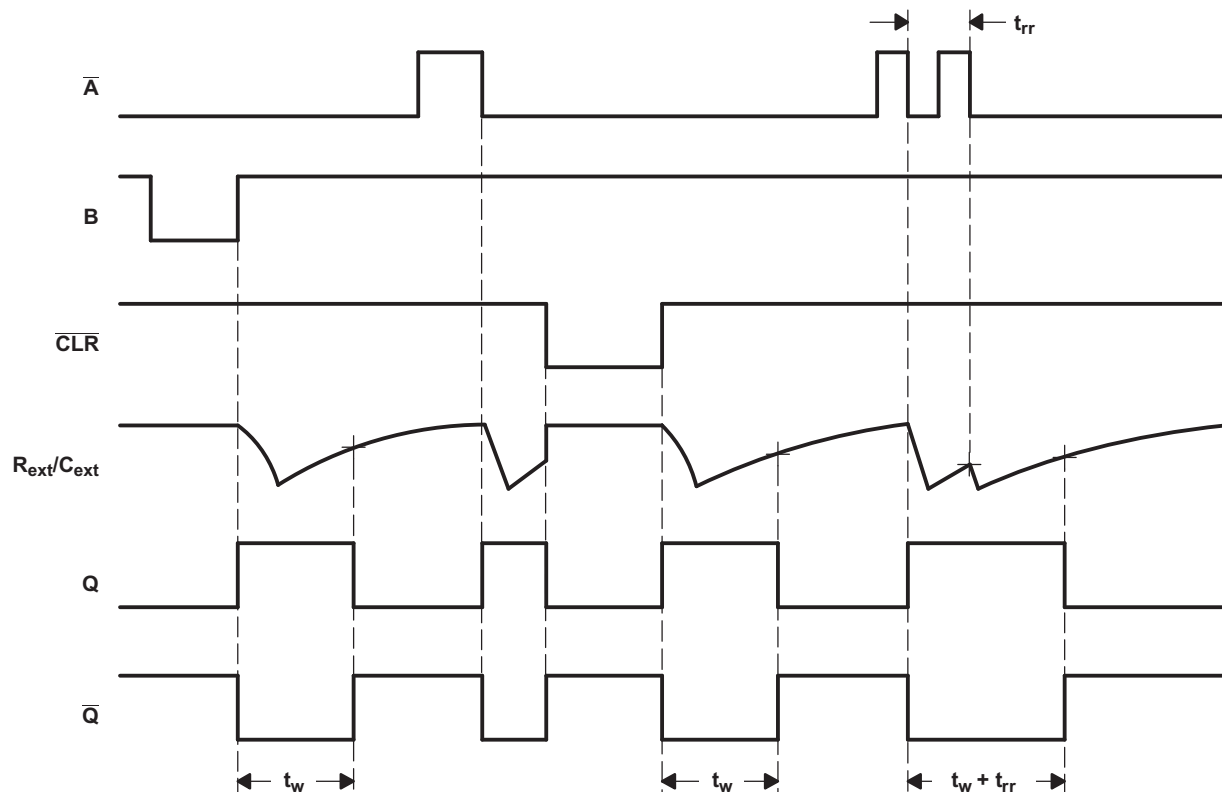

Figure 7. Input and Output Timing Diagram
Once triggered, the basic pulse duration can be extended by retriggering the gated low-level-active ( $\overline{A}$ ) or high-level-active (B) input. Pulse duration can be reduced by taking  $\overline{CLR}$  low. The Figure 7 illustrates pulse control by retriggering the inputs and early clearing.